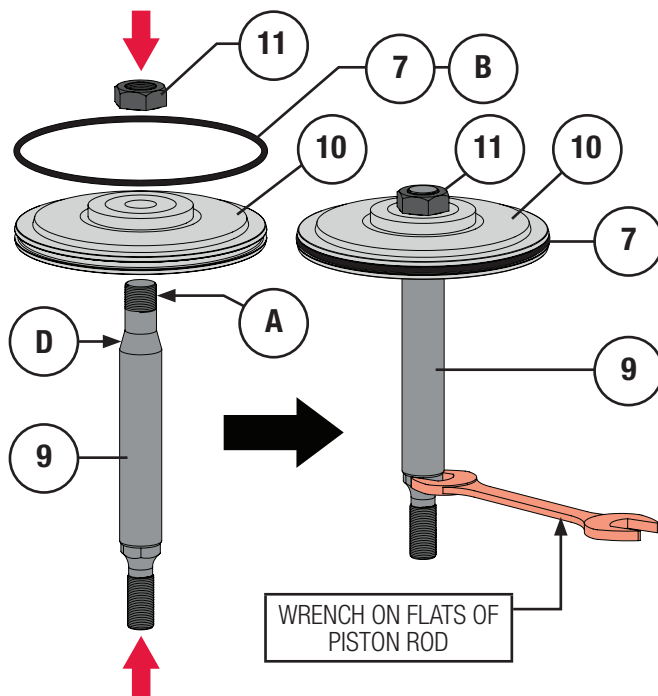

Figure 24 Piston Assembly
- 1 Apply LOCTITE® 565 Instant Adhesive (Key D) to the tapered shoulder of the piston rod (Key 9) as shown in Figure 24.
- 2 Set the piston (Key 10) onto the piston rod (Key 9) as shown in Figure 24.
- 4 Hold the piston rod (Key 9) by placing a wrench on the flats as shown in Figure 24, or, double nut the bottom of the piston rod and use a wrench on the those nuts. Torque the jam nut (Key 11) to 635 lbf-ft (861 N•m).
- 5 Apply Dow Corning Molykote® 5 (Key B) to the piston o-ring (Key 7) and install it into the o-ring groove of the piston (Key 10). Refer to Figure 24.